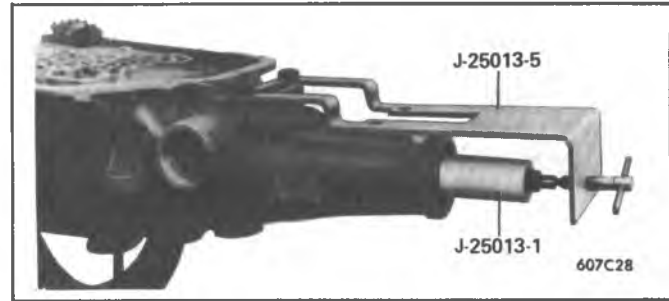

Figure 7A1-27 Installing Tools on Rear End of Case
e. Install J-25022 on J-24773 tool and secure on end of turbine shaft. (Figure 7A1-29).